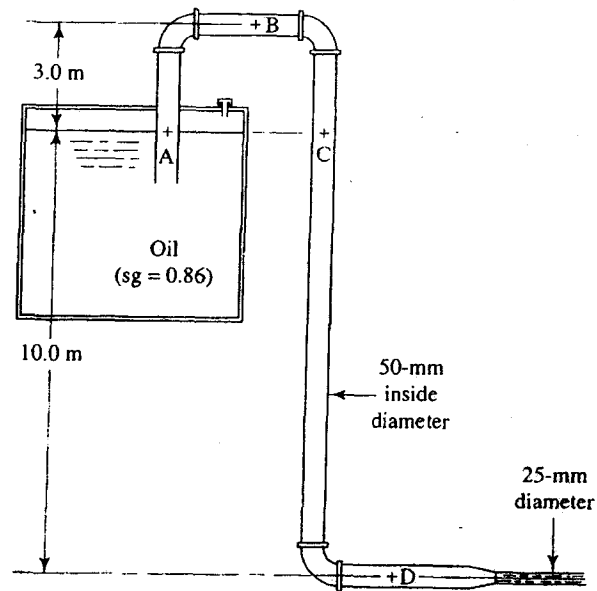

Figure 3 / Rajah 3
- [c] For the siphon shown in Figure 3, calculate: